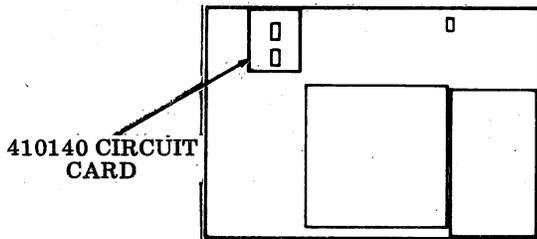

Fig. 15—40C303AA/001 Controller
3.14 Remove tape from 410140 circuit card. Present only on controller 40C303AA/001. The controller is mounted in the bottom of the 40CAB351 type, 40CAB353 type or 40CAB371 type printer cabinet. Not associated with forms access arrangements. Mount 410140 card to controller 40C303AA/001 (Fig. 15).